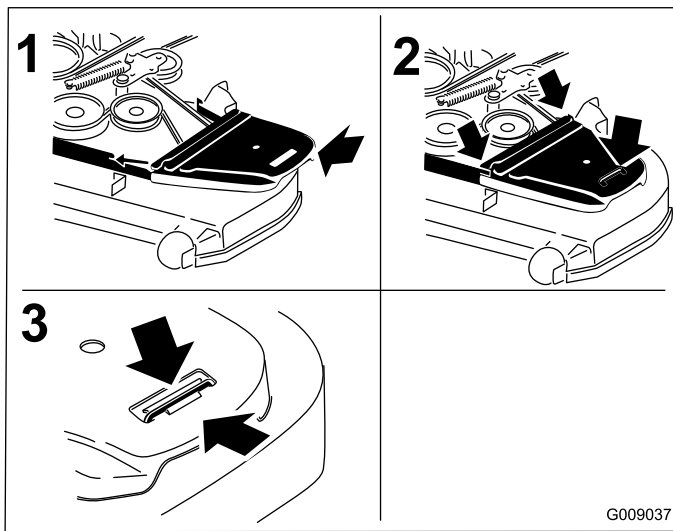

Figure 57
12. Install the belt covers (Figure 57).